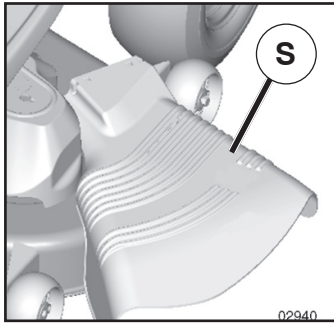

Fig. 23
CAUTION: Do not operate the mower without either the entire grass catcher, on mowers so equipped, or the deflector chute (S) in place (See Fig. 23).